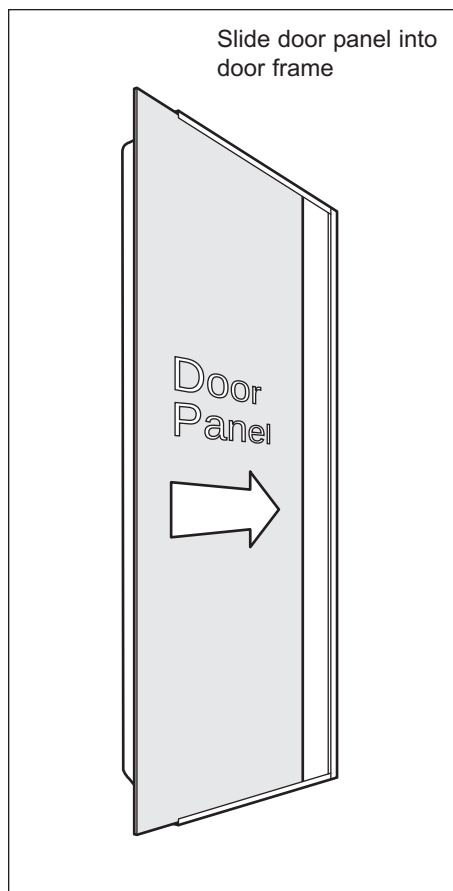

Figure 2-10. Door Panel Install
3. Slide door panel into door frame (See Figure 2-10), then reinstalling handle/trim and magnetic trim molding.